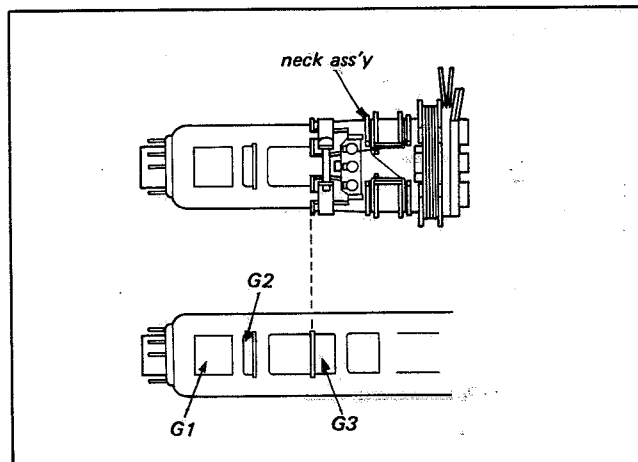

Fig. 2
4. Position neck protector ass'y as shown in Fig. 2.
**Note:** The circled numbers (①-⑨) show above steps.